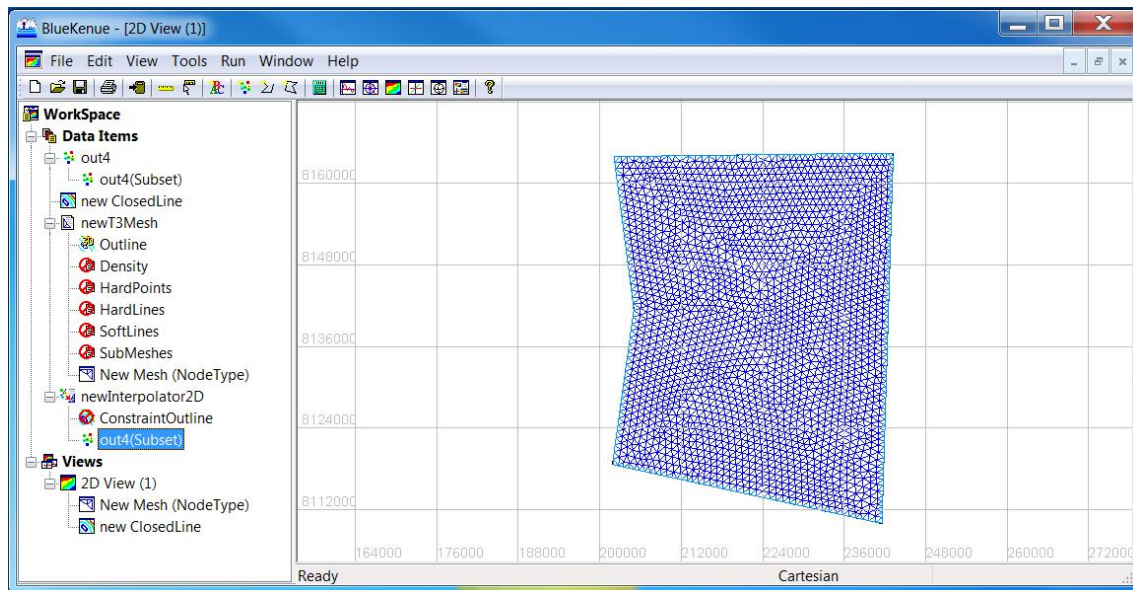

Figure A112: Drag subset of xyz data into newInterpolator2D.
9. Drag subset into newInterpolator2D (Figure A112) Page 93